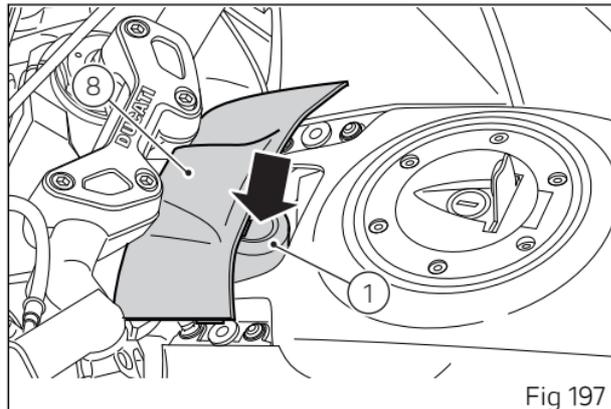
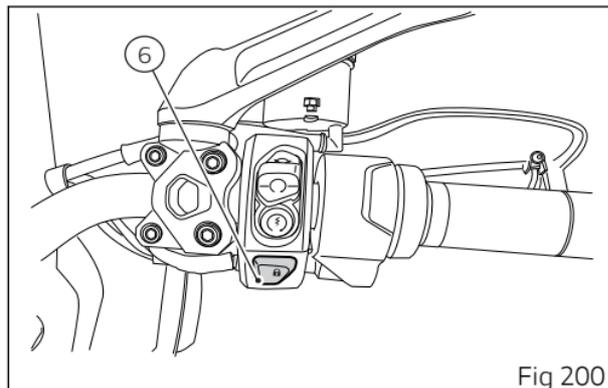

Fig 197
Fig 200
(Fig 197) indicates the position of the Hands Free unit (1), with protection lid (8) and (Fig 198) indicates the position of the antenna (2) under panel (9) at the key symbol.
Key-Off occurs when the speed of the motorcycle is equal to zero, by pressing button (6, Fig 200) on the handlebar or by pressing the Hands free button (1, Fig 197). When speed is not equal to zero, perform key-off by pressing the Hands free button (1, Fig 197).